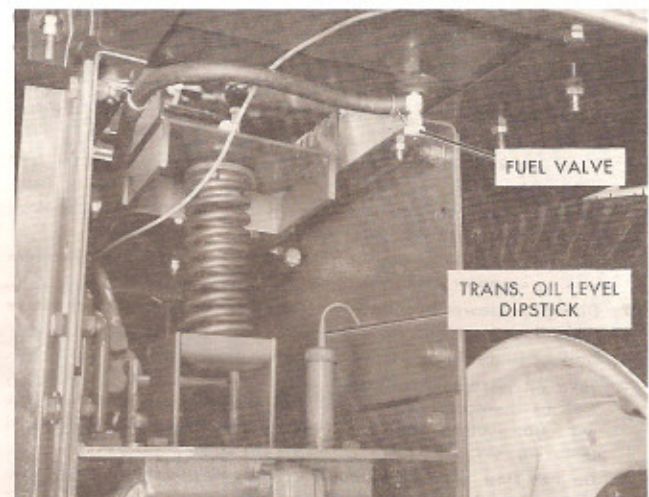

FIG. 2 — FUEL VALVE
12. FUEL VALVE (Located at bottom of tank) Fig. 2